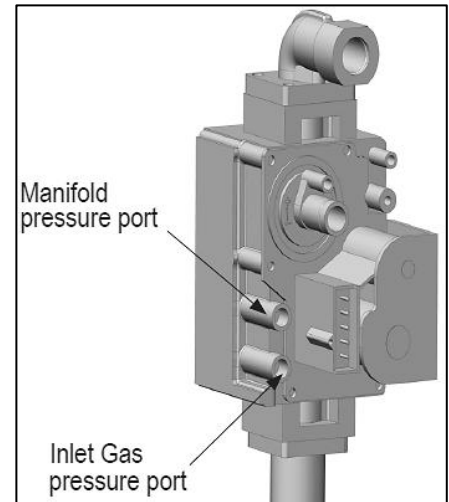

Figure 19 – Inlet Gas Pressure Port Detail
**NOTE:** Refer Figure 19 when adjusting gas pressure. Loosen the bolts before checking the gas inlet pressure.